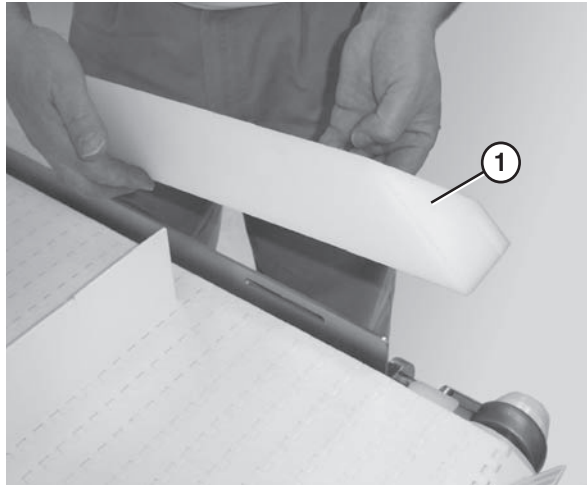

Figure 51
2. Remove the guide (**Figure 51, item 1**).